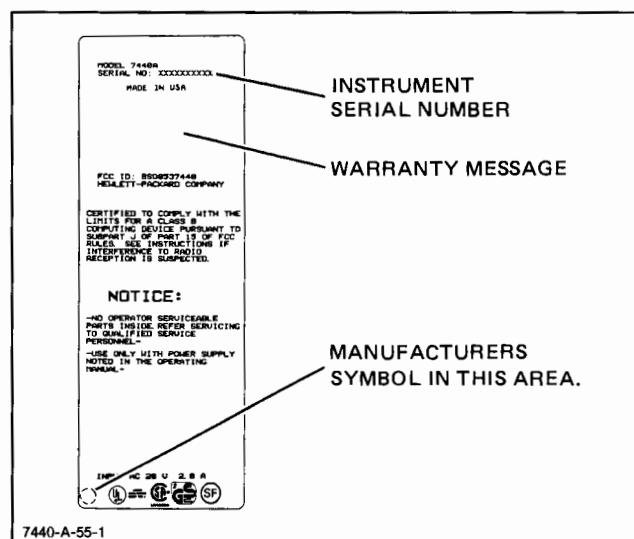

Figure 1-3. HP 7440 Serial Number Label
- 1-23. The plotter serial number is located on bottom of the plotter. See Figure 1-3. Hewlett-Packard uses a two-part serial number consisting of a four-digit prefix and a five-digit suffix separated by a letter (e.g., 0000A00000). The prefix is the same for all identical plotters and changes only when a modification is made that affects parts compatibility. The suffix is assigned sequentially and is different for each plotter. This manual applies directly to plotters with the serial prefix shown on the title page.